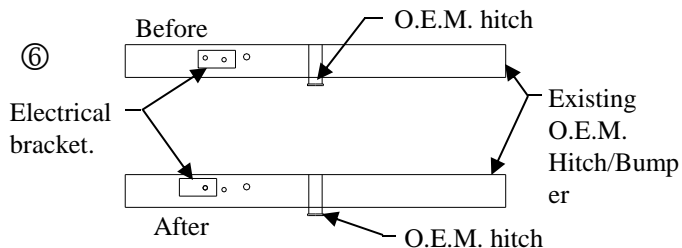

Figure 3.
- Relocate existing electrical bracket. Remove (2) screws and shift the bracket toward the drivers side using the inside screw hole on bracket and outside weld nut (See Figure 3).